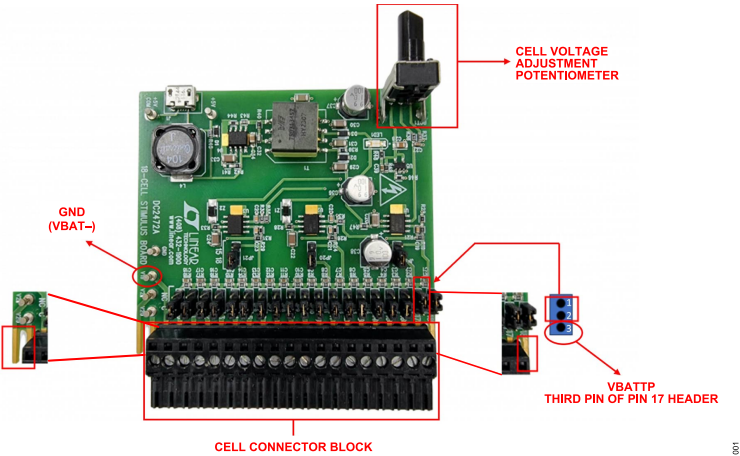

Figure 2. DC427A Battery Cell Emulator
1. Screw the two cell connector blocks to the two DC2472A battery emulators. Note that the first two terminals and the last terminal of each DC2472A connector must be left hanging (see Figure 2).
3. Set the DC2472A battery emulators to the lowest voltage by fully turning the cell voltage adjustment potentiometer counter-clockwise (see Figure 2).